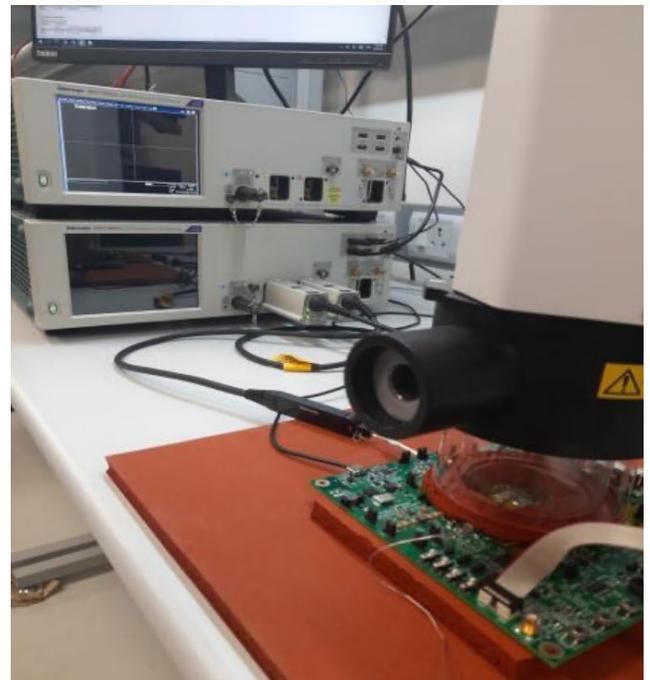
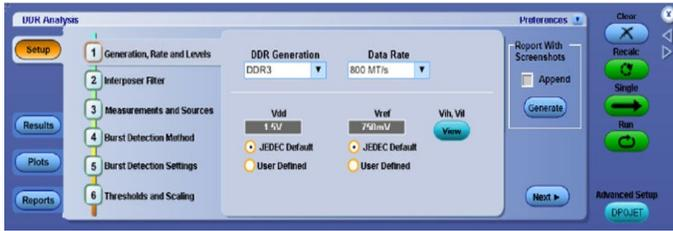

Figure 6. DDR3L Compliance Testing Setup
Figure 7. Snapshot of DDR3L Compliance Test Suite
- The following compliance testing setup (Figure 6. DDR3L Compliance Testing Setup) is used with the test suite (Figure 7. Snapshot of DDR3L Compliance Test Suite):